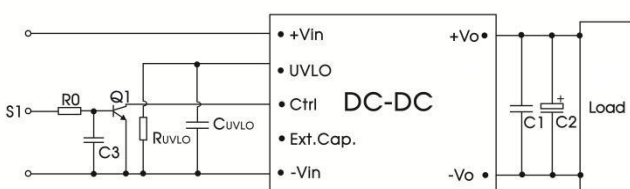

Fig.4
- Ctrl current-mode logic recommended circuit design refer to fig.4.